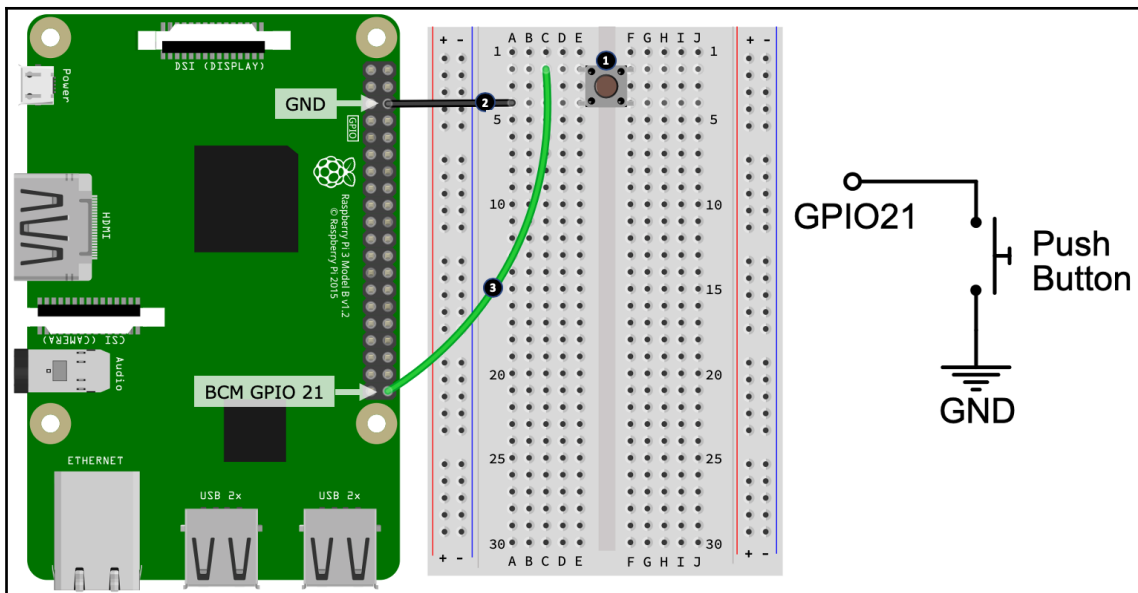

Figure 6.5 – Push button circuit
1. This example uses the push button circuit shown previously in *Figure 6.5*. Please recreate this circuit on your breadboard before continuing.